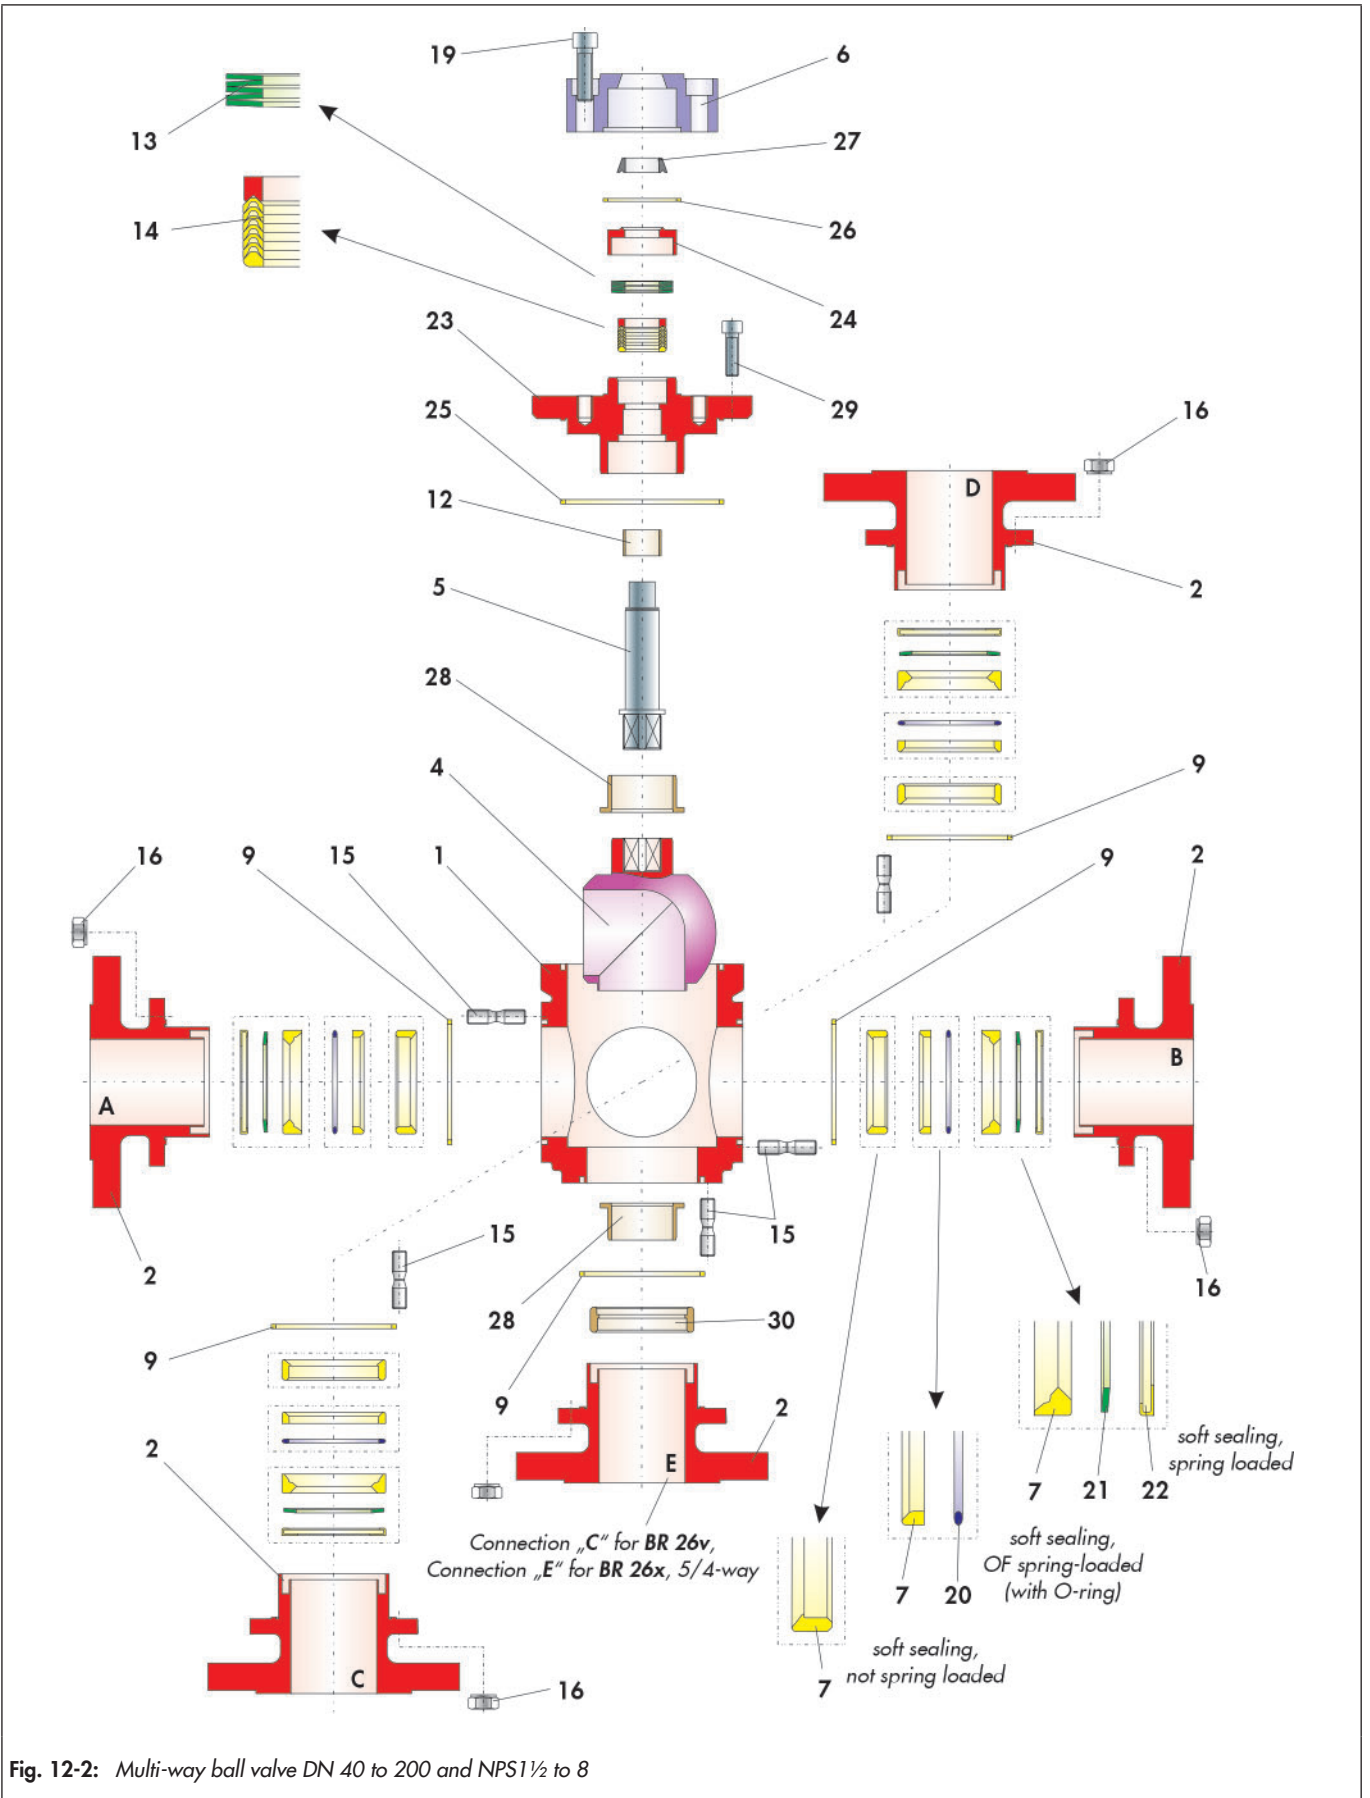

Fig. 12-2: Multi-way ball valve DN 40 to 200 and NPS1½ to 8
- ⇒ Carefully loosen the ball (4) from the control shaft (5) and remove it from the main body (1).
- ⇒ Version of the ball valve, see Fig. 12-2.
- ⇒ Loosen the screws (15) and carefully remove the horizontal body flanges (2).